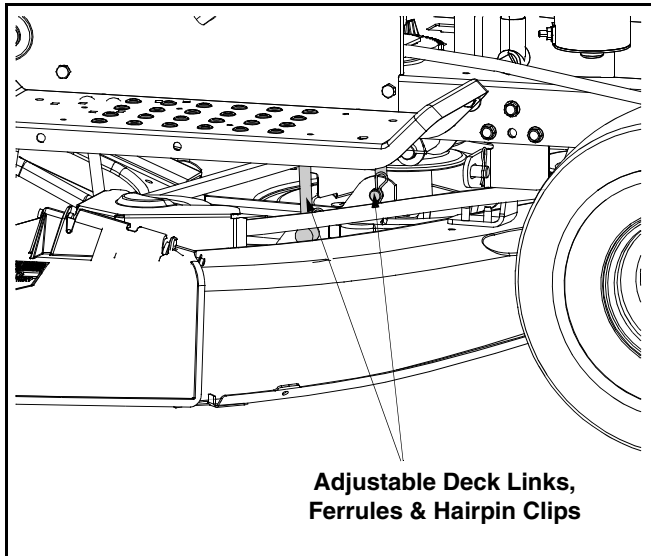

Figure 14
- Remove the hairpin clip from the ferrule found at the bottom of the front, left deck link (hairpin clip is on the inside of the lift link). See Figure 14.